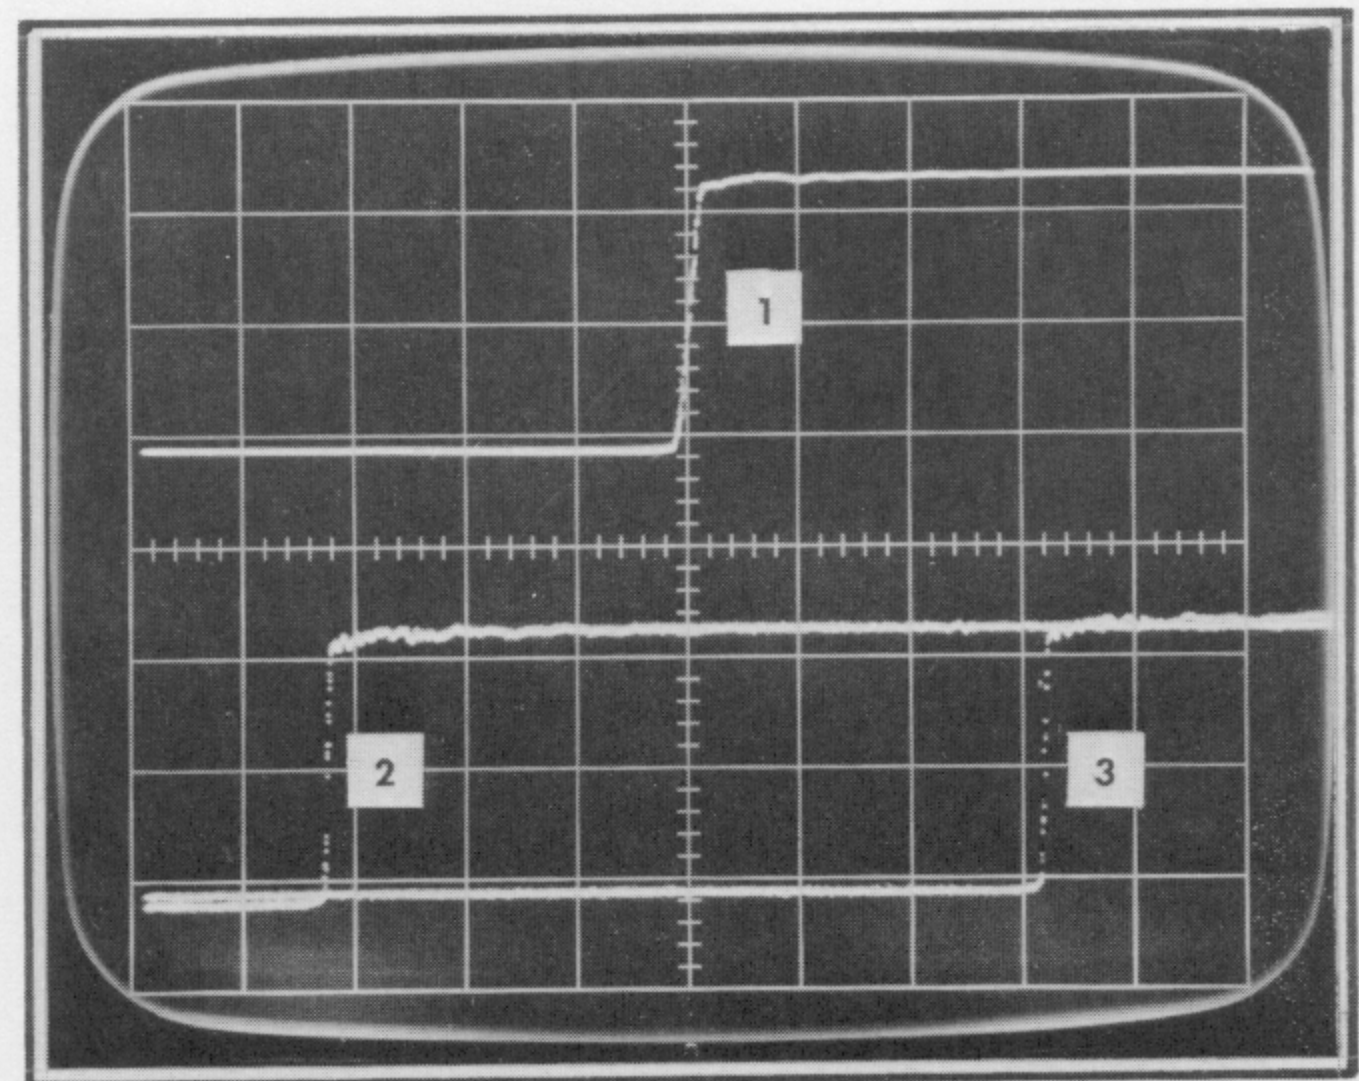

Fig. 7-14. Waveforms for steps 18 and 19, B DELAY control range.
b. Obtain a step display of the signal fed to Channel B. Set the B DELAY control fully counterclockwise and use the sampling sweep unit Time Position controls to move the step so the center of its rise passes to the left of the graticule 2.5 div point; see point no. 1, Fig. 7-14.
c. Turn the B DELAY control fully clockwise. The step display should now be to the right of the graticule 7.5 div point; see point no. 2, Fig. 7-14. Adjust the sampling sweep unit Time Position controls so the two points (no. 1 and no. 2 of Fig. 7-14) fall equal distances on the left and right of the graticule centerline.
d. Move the sampling head to Channel A with the signal cable still attached. The step display should now be at the graticule centerline: see Fig. 7-14, point no. 3. If not, adjust the A DELAY control, R561 shown in Fig. 7-7, so that the step display half-amplitude point does cross at the graticule centerline.